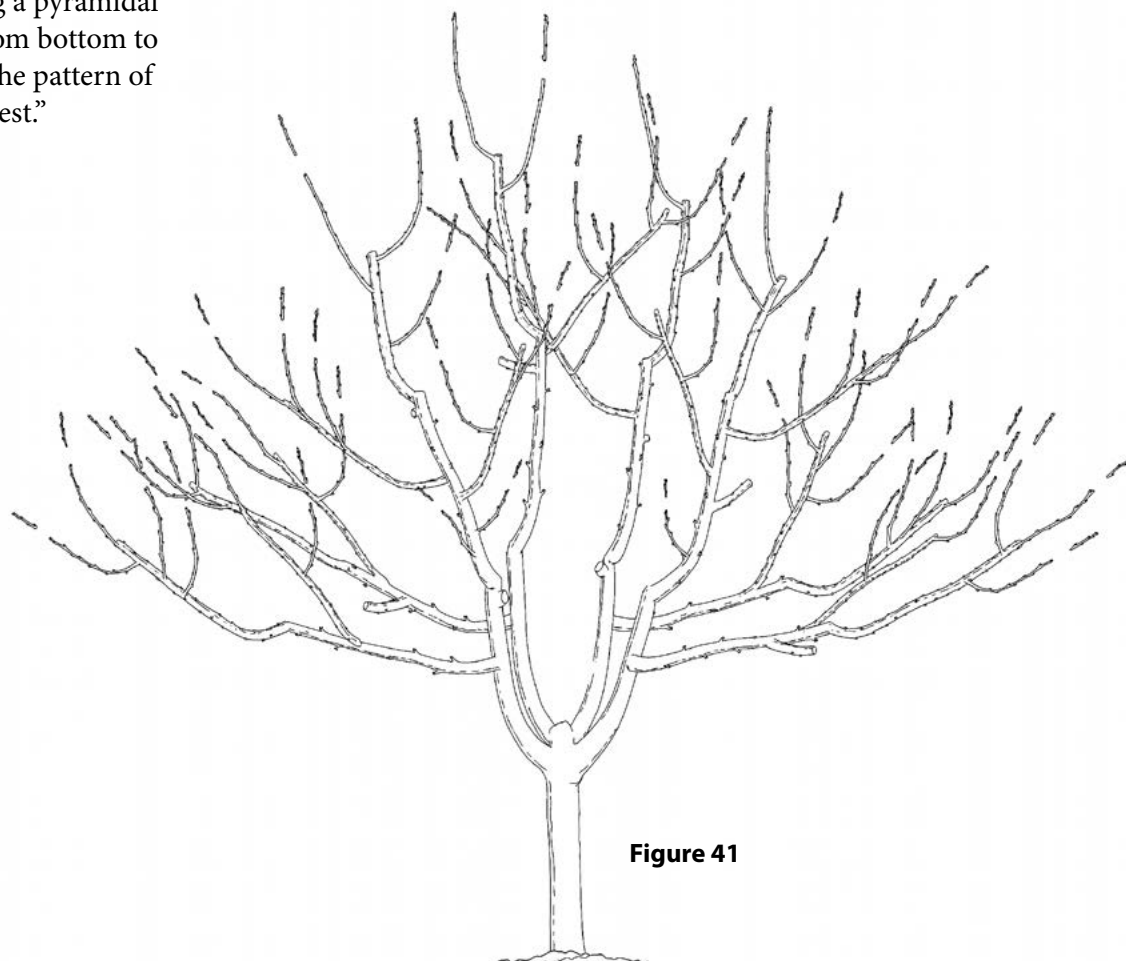

Figure 41
- To balance crop load if the tree is very productive, tip and remove a quarter to a third of the new growth of all lateral branches (Figure 41).